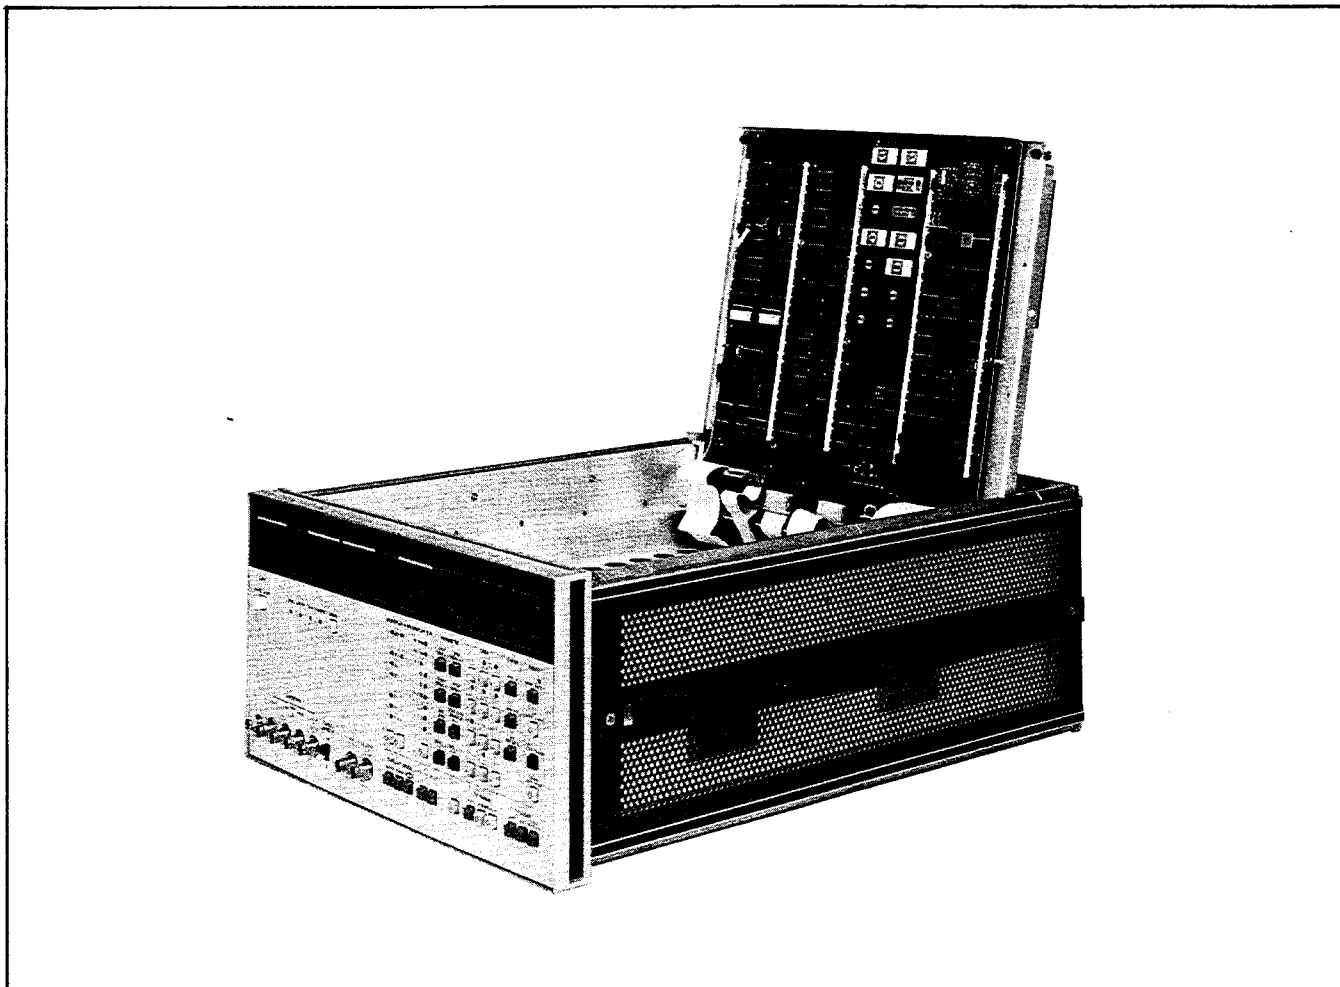

Figure 8-38. A6 Microprocessor Digital Control Board Disassembly.
5. Raise the mounting plate from the front as you would the hood of an automobile and open until it is latched at the position shown in Figure 8-38.